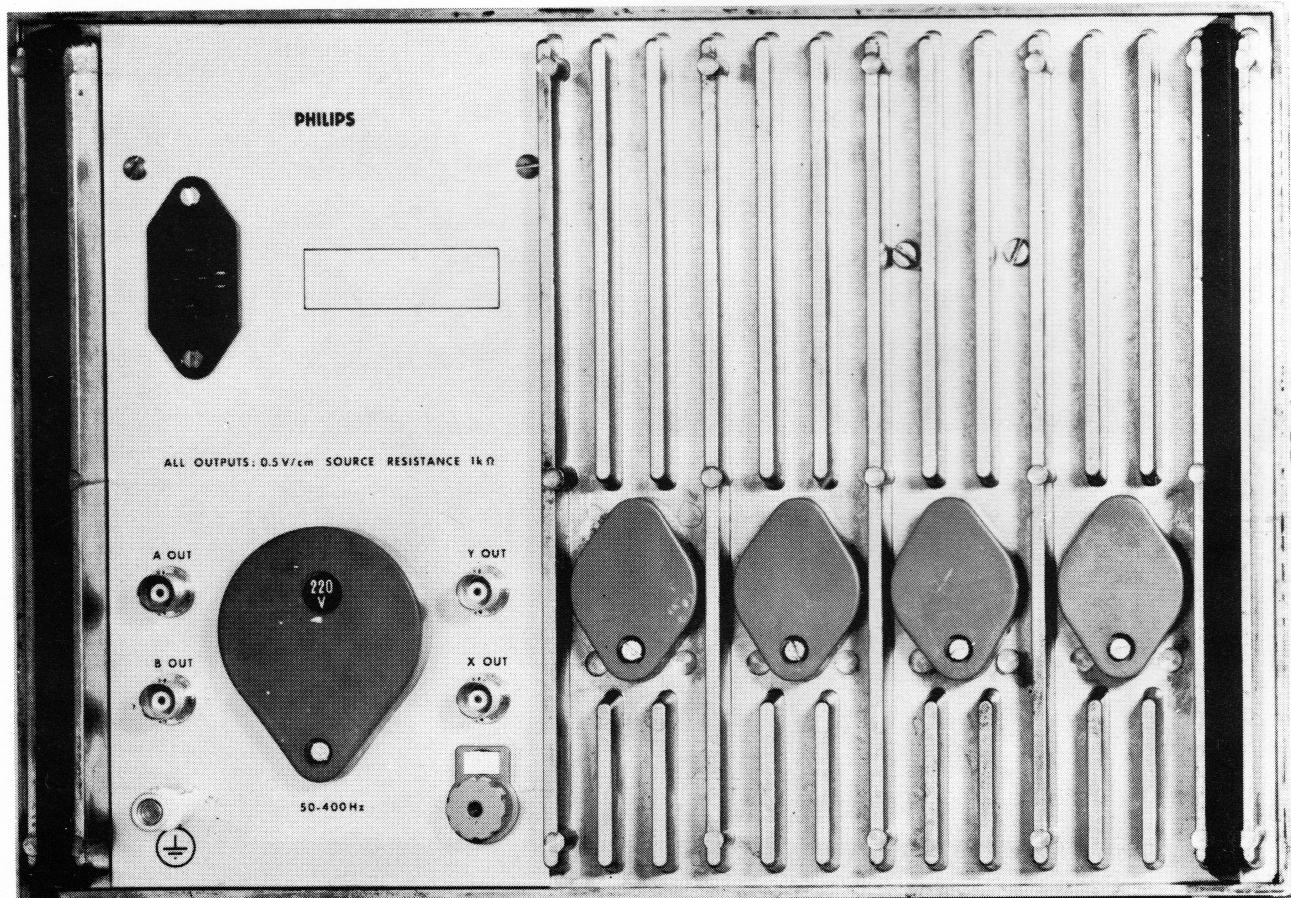

Fig. V-2 Rear view
The set voltage can be read through the aperture in the plastic lid on the rear panel (Fig. V-2).
- Via the earthing socket P13 on the rear panel (Fig. V-2)